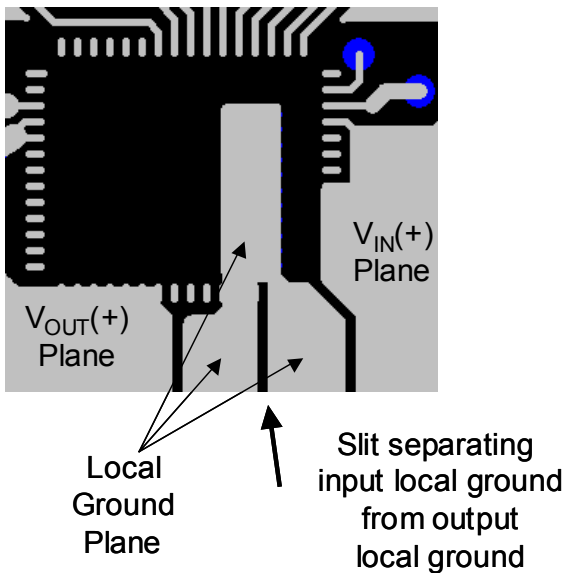

Figure 5. Layout of power and ground planes.
**Recommendation 2:** Place a slit in the input/output capacitor ground plane just beyond the common connection point of the GND pins of the device as shown in figure 5.